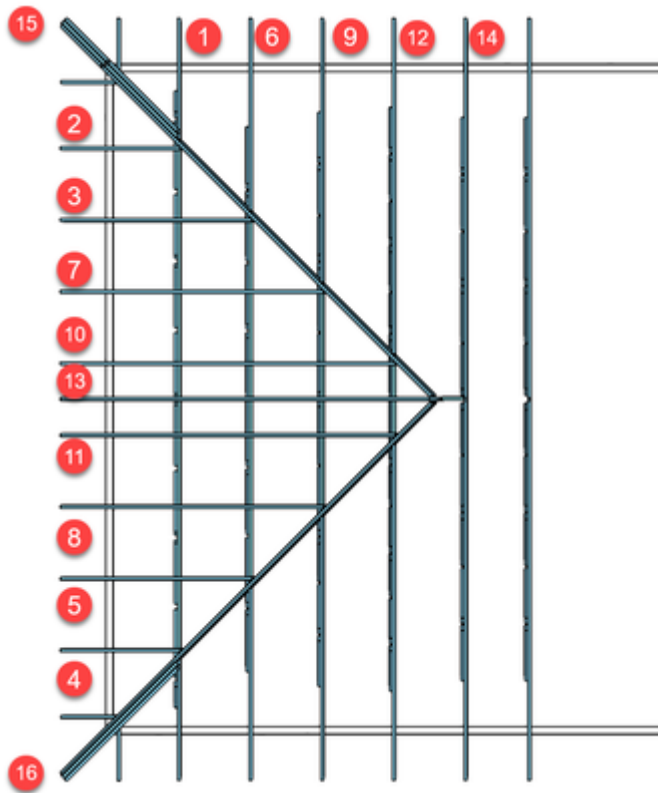

Figure 7.7: Sequence to install trusses, common rafters and hip rafters on type 1 and type 1A hip end roof
Step 6: Install trusses, common rafters and hip rafters in the sequence shown in **Figure 7.7**. Refer to sections below for fixing details for common rafters, hip rafters, and creeper rafters.